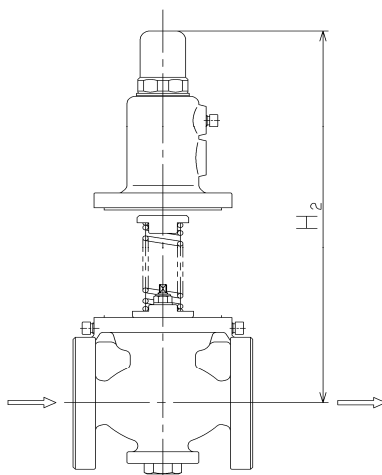

Fig. 1 Space required for disassembly
- (1) Joint for the outlet pressure sensing is not included with the product package.
- (2) Secure the space specified in the table below (H₂) since it is required for maintenance and inspection. H₂ indicates the required height above the horizontal center line of the piping (see Fig. 1 below).